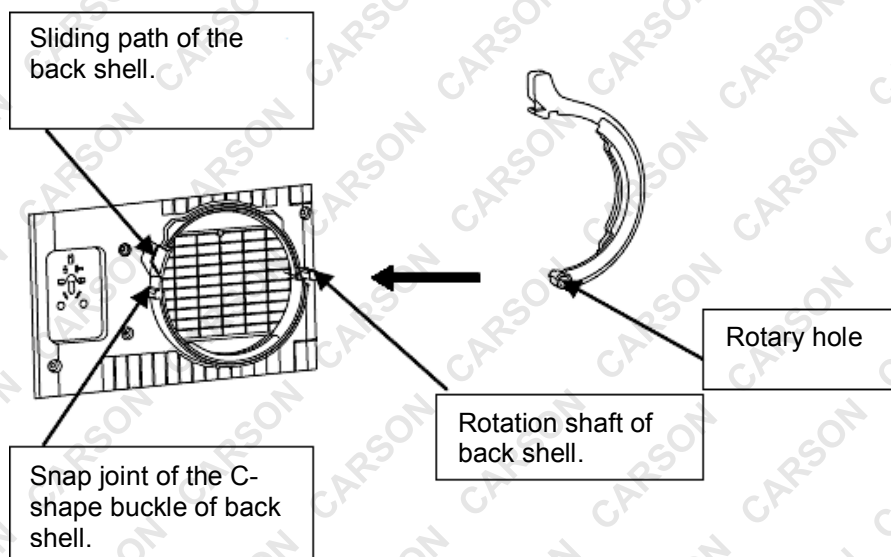

Figure 3
2. Point the rotary hole at the end of the heat exhaust hose snap toward the rotation shaft of the back shell and slide it onto the back shell in accordance with the snap joint direction of the rotation shaft on the back shell (as shown in Figure 3).